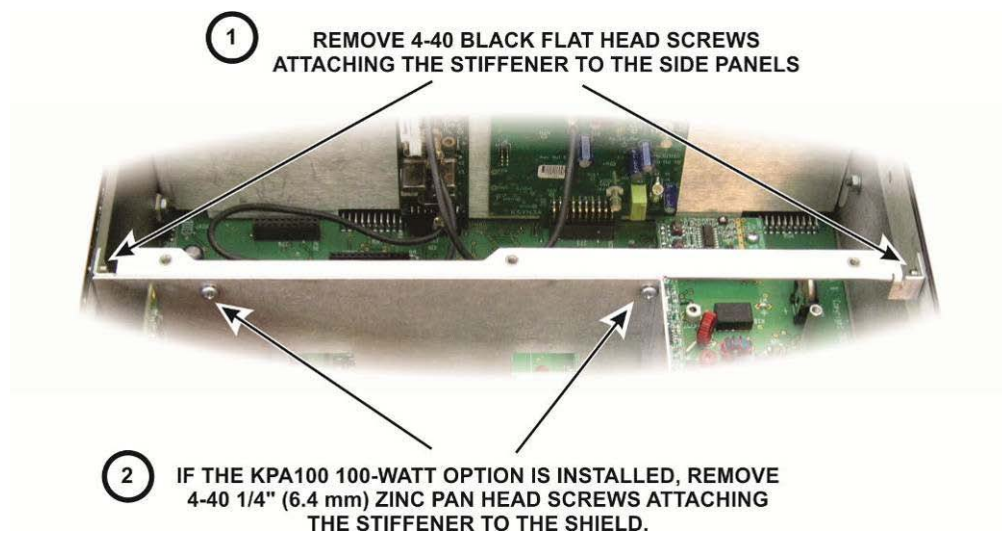

Figure 3. Removing the Chassis Stiffener Bar.
- Remove the chassis stiffener bar that runs across the top of the chassis (see Figure 3).